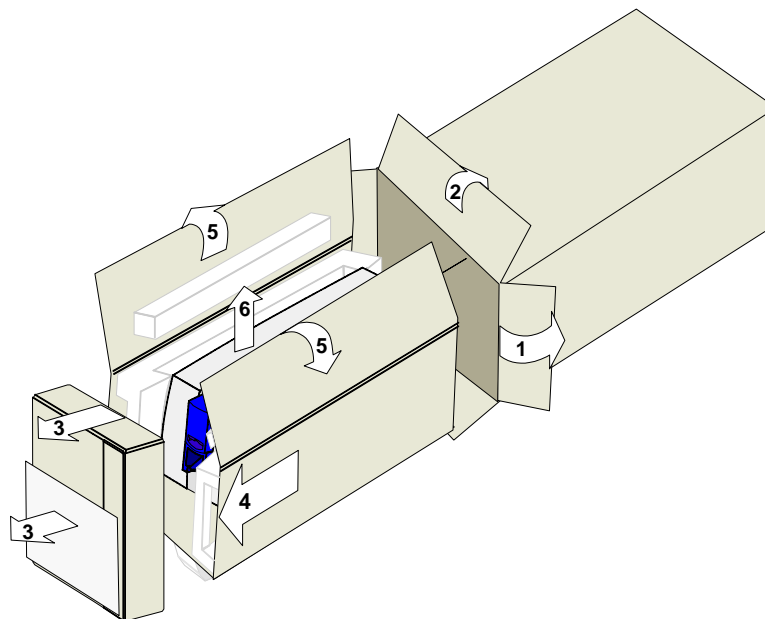

Figure 7-1: Unpack the printer
- 3 Open the shipping carton (steps 1 and 2 in Figure 7-1).
- 4 Remove the Quick Install Chart and the accessories box (step 3 in Figure 7-1). The options included with the printer are checked on the chart.
- 5 Slide the wrapped printer out of the shipping carton (step 4 in Figure 7-1).
- 6 Open the shipping support wrap (step 5 in Figure 7-1).
- 7 Lift the printer (step 6 in Figure 7-1) and place it on a counter or other solid surface.